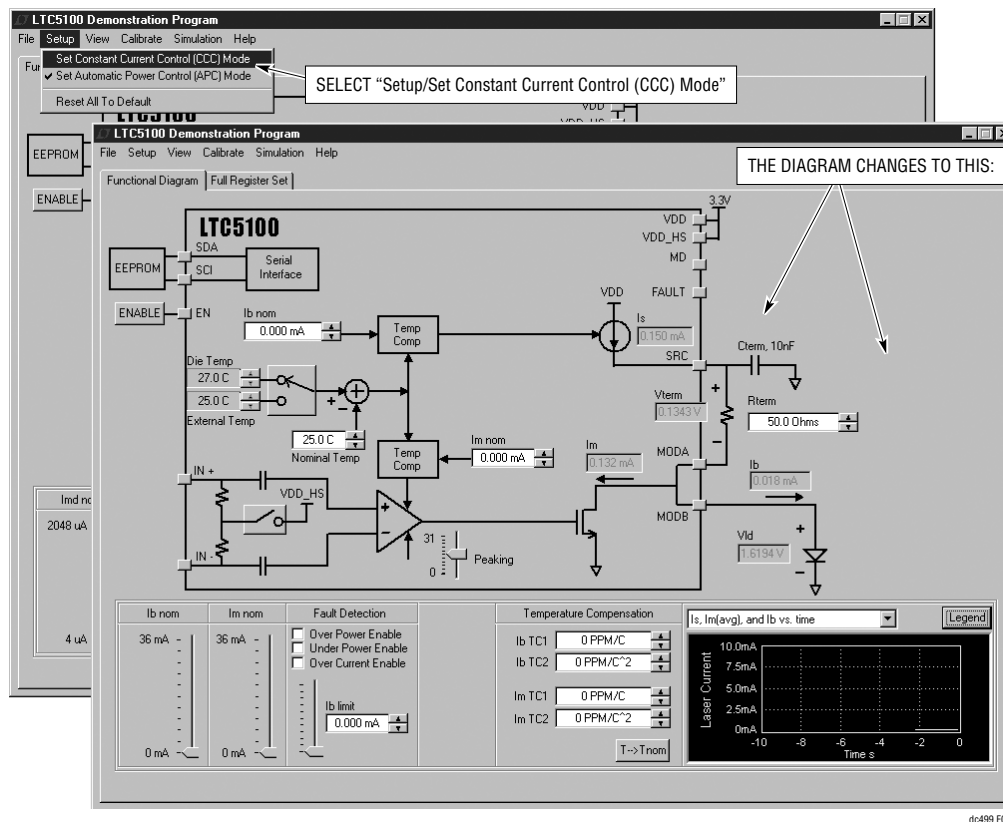

Figure 6. Switching to Constant Current Control (CCC) Mode
You can explore many more aspects of the LTC5100 with the simulator. For example you can investigate fault detection and laser temperature compensation. You can even change the laser model to represent your own laser. See the SIMULATION section for further details. To simulate constant current control (CCC) mode, follow the instructions given in Figure 6. To see the LTC5100's full register set, follow the instructions in Figure 7. See Figure 8 for tips on getting further information and help.
10. You can run the laser with automatic power control (APC), taking feedback from the monitor diode. You can also run in constant current control (CCC) mode, forcing a fixed bias current into the laser diode. Figure 6 shows how to switch to CCC mode.
4. Switch to constant current control (CCC) mode as shown in Figure 6.